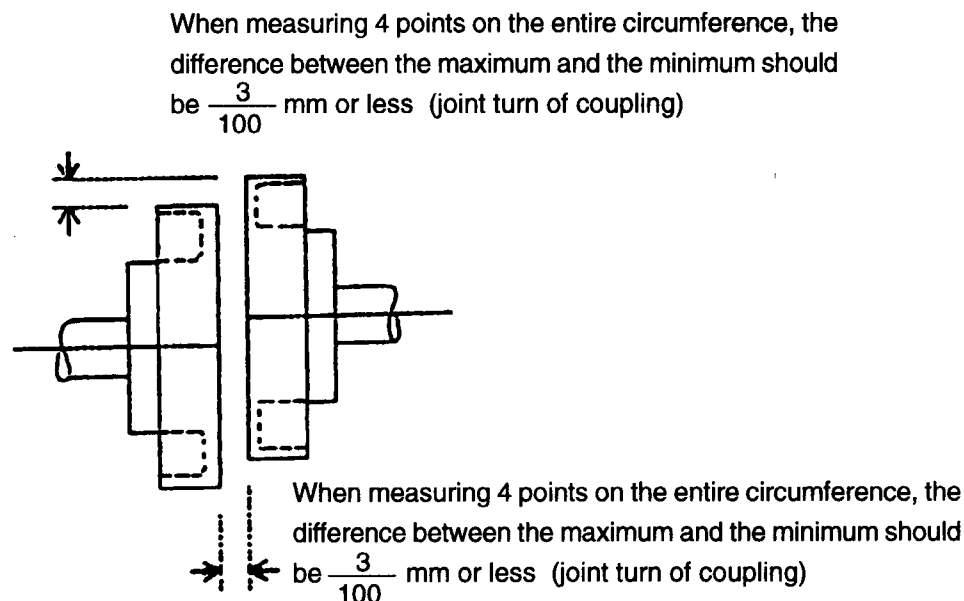

Fig. 5-9 Centering
③ Connection with the companion machine
- Accurately center the motor shaft and the companion machine as shown in Fig. 5-9. In particular, when using a rigid body coupling, slight offset will lead to damage to the output shaft.